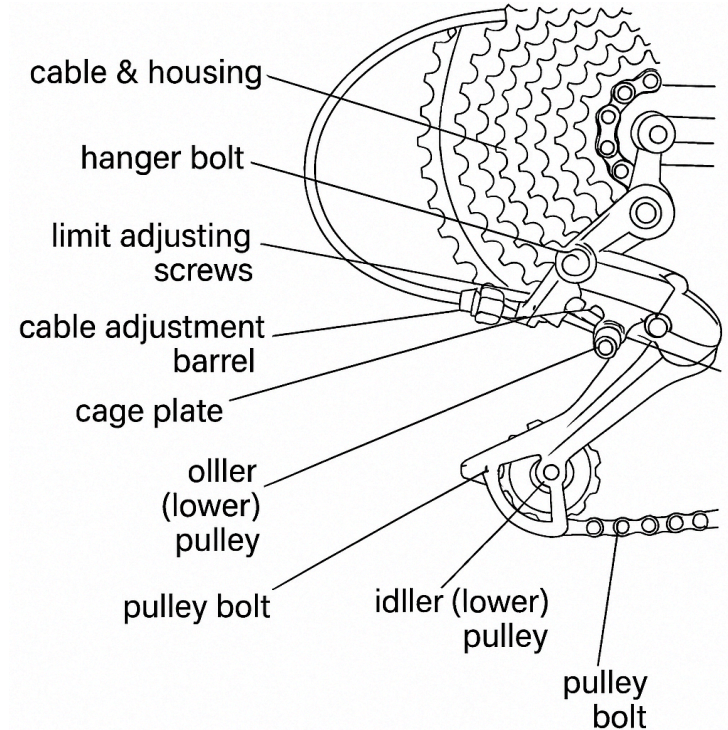

Fig. 7
The rear derailleur has two limit screws—High (H) and Low (L)—that prevent the chain from shifting too far. (Fig. 7)